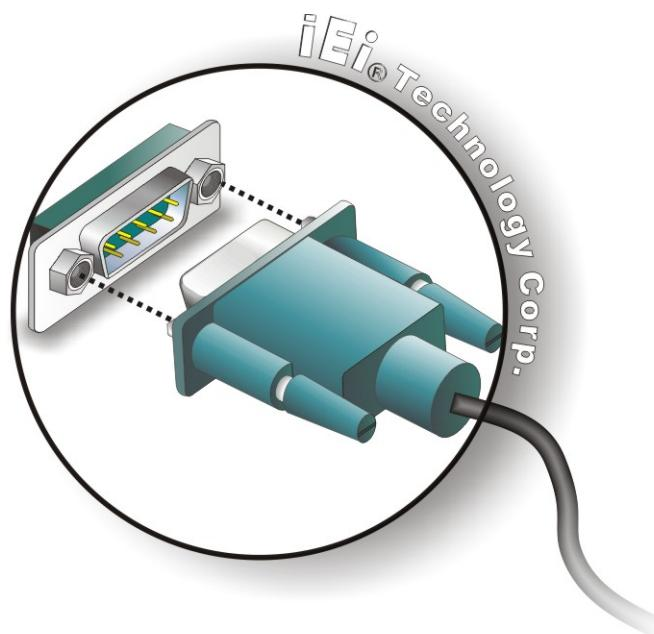

Figure 3-10: Serial Device Connector
Step 2: Insert the serial connector. Insert the DB-9 connector of a serial device into the DB-9 connector on the external peripheral interface. See Figure 3-10.